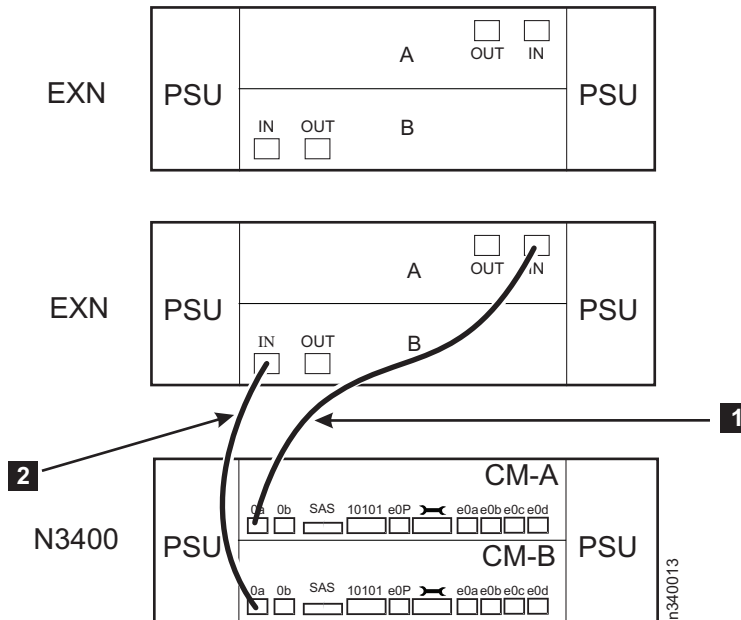

Figure 10. Cabling a dual-node N3400 to first expansion unit
- Figure 10 shows storage system connections to EXN2000/EXN4000 expansion units. On EXN1000 expansion units, the positions of the In and Out ports are reversed from those of the EXN2000/EXN4000.
- Figure 10 shows only the first two storage expansion units in a loop. The number of storage expansion units per loop might be different for your configuration.
1. Cable the N3400 CM-A port 0a to the first storage expansion unit module A (IOM A) ESH2/ESH4 or AT-FCX In port. See **1** in Figure 10.
2. Cable the N3400 CM-B port 0a to the first storage expansion unit module B (IOM B) ESH2/ESH4 or AT-FCX In port. See **2** in Figure 10.